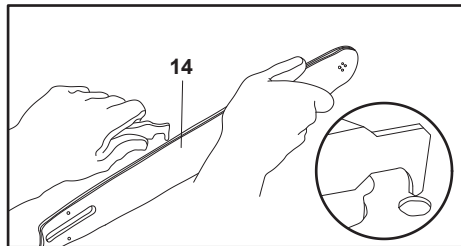

Fig. 63
3. Check the drive sprocket (23). If it is worn or damaged due to strain, have it replaced by an authorised service agent.
4. Clear residue from the rails on the guide bar (14) by using a screwdriver, putty knife, wire brush or other similar tool. This will keep the oil passages open to provide proper lubrication to the guide bar (14) and saw chain (15) (Fig. 63).